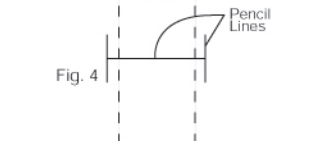

Fig. 4
A pilot hole should serve to simply **guide** the travel of the screw. (See Figs. 4 & 5)
2.4-Lightly pencil mark two lines on each side of the wall bracket about 2" long. Remove the wall bracket and draw a horizontal line across the center, connecting the two vertical pencil lines. (See Fig. 4)